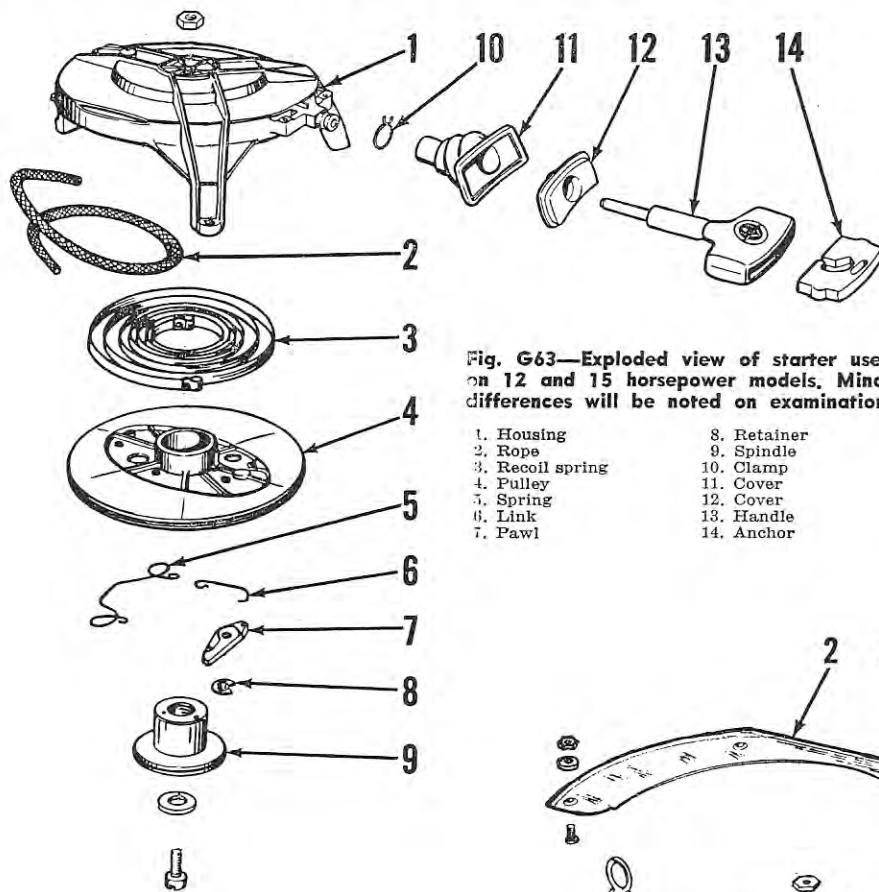
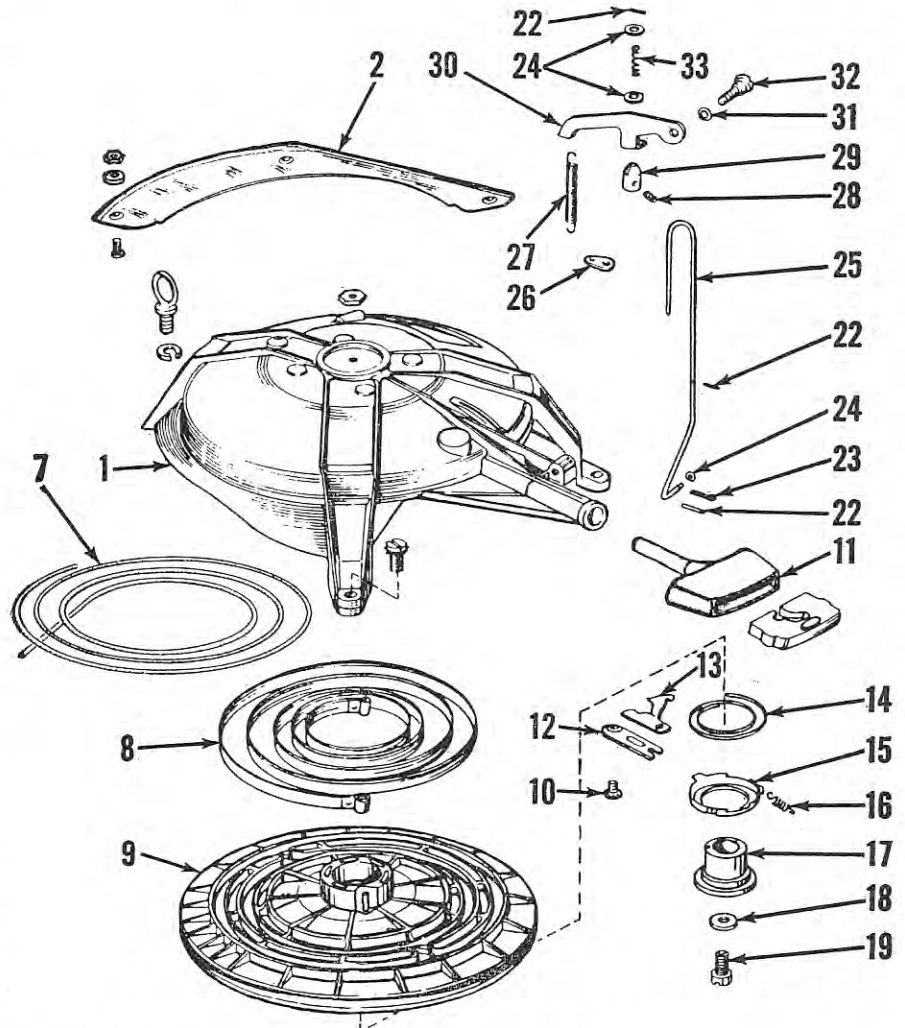

Fig. G63—Exploded view of starter used on 12 and 15 horsepower models. Minor differences will be noted on examination.
Fig. G64—Exploded view of starter of the type used on late 25 horsepower models. Early models are similar.
Fig. G63 and Fig. G64 show starters typical of those used. When installing a new starter cord or spring, invert the removed starter assembly in a vise and wind the spring by turning the starter pulley counter-clockwise until spring is completely wound. Reverse the pulley one turn and install the cord. All 22 and 25 horsepower models are equipped with a starter latch which is mechanically linked to carburetor cam follower to prevent starting the motor when throttle is set for high speed. To adjust the starter latch, set shift lever in neutral position and speed control at the fast limit recommended for starting. Loosen the set screw in stop collar (A—Fig. G65) and adjust collar up or down on link until inner end of latch (B) just clears the cast lugs on starter pulley. Tighten the set screw with collar in this position.